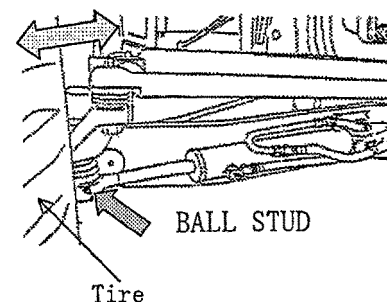

Fig. 3
- ① Shake the tire by hands to make visual inspection if the ball stud section is not loosened. (Refer to Fig. 3.)
- ② In case loosening of the ball stud section is not checked visually, measure the bolt tightening torque using a torque wrench to check if the bolt is not loosened.